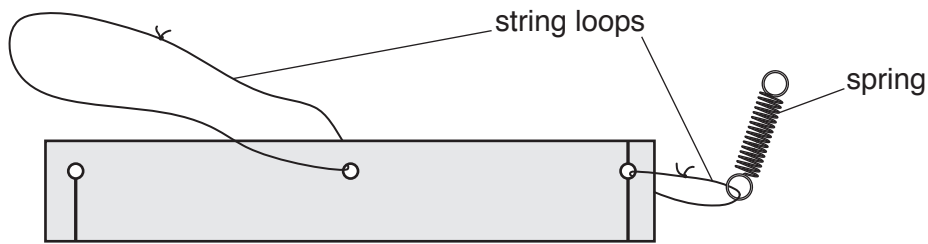

Fig. 1.2
- 2 String loops should be tied through two of the holes, as shown in Fig. 1.2. The loop through the centre hole should have a circumference of 25cm. The loop through the end hole should have a circumference of 10cm and should pass through one of the loops of the spring, as shown in Fig. 1.2.